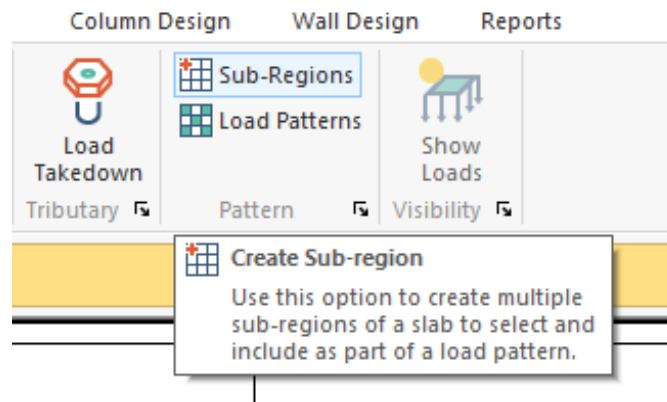

Figure 7.2-3 - Menu for Skip (Pattern) Loading
- From *Loading* → *Pattern* → *Subregions*  (**Fig. 7.2-3**). The same menu item is used for the reduction of live load for horizontal elements (slabs, beams, etc.)
- Identify the “skip sub-regions” that form a load pattern, by selecting the *Define/Edit Load Pattern* option in **Fig. 7.2-3**.